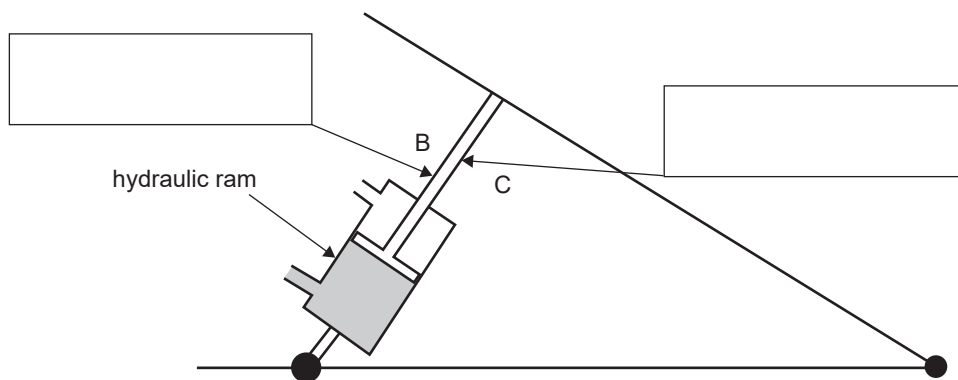

Figure 16
- d. Figure 16 shows the hydraulic ram in the fully extended position. Two regions of the rod are labelled point B and point C.
From the options given, select the type of stress on point B and on point C, and write your answers in the boxes provided in Figure 16.